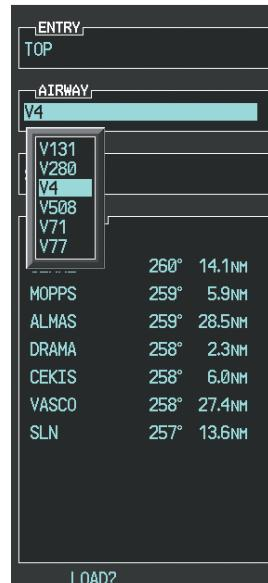

Figure 5-110 List of Available Airways for TOP
- f) Press the **LD AIRWY** Softkey to display the list of available airways for TOP as seen in Figure 5-110.
- g) Turn either **FMS** Knob to highlight V4 in the list as seen in Figure 5-110.